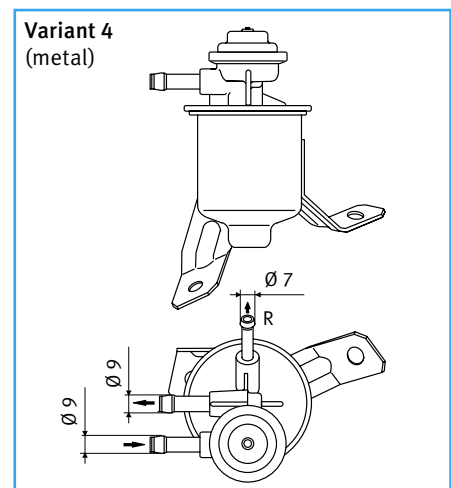

Figure 21 Fuel vapor separator
- **Variant 4** (Figure 21) has a combination of features from variants 1 and 3 - a fuel container with variable return as well as an integrated pressure regulator. This version allows the use of particularly high-performance fuel pumps and is the most effective solution for fuel supply problems due to temperature.